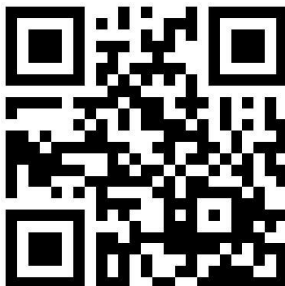

**Fig. 5. Rubber belt replacement**
- Replace the rubber belt (fig. 5).